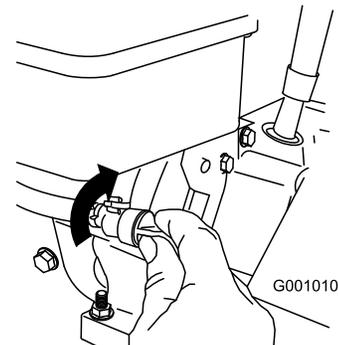

Figure 30
- Close the fuel shutoff valve by rotating it clockwise (Figure 30).